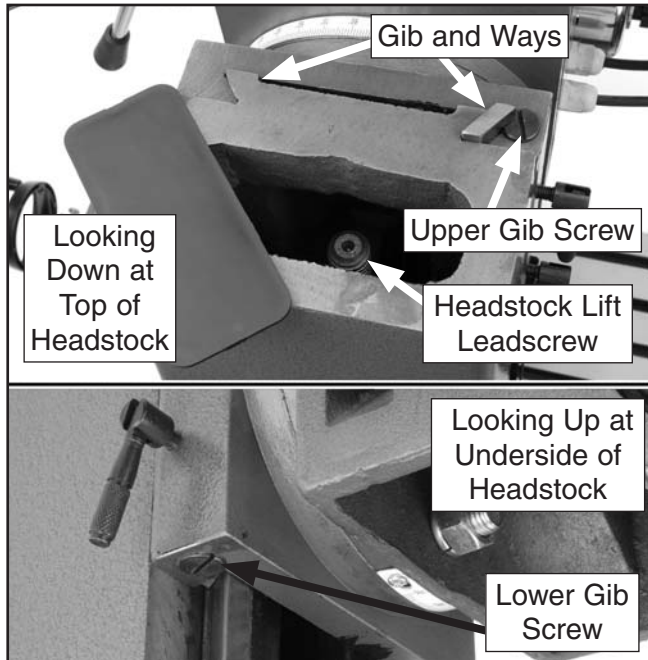

Figure 46. Headstock gib adjustment.
4. Using the screwdriver, adjust the upper and lower gib screws (**Figure 46**) in an alternating manner to adjust the headstock gib.